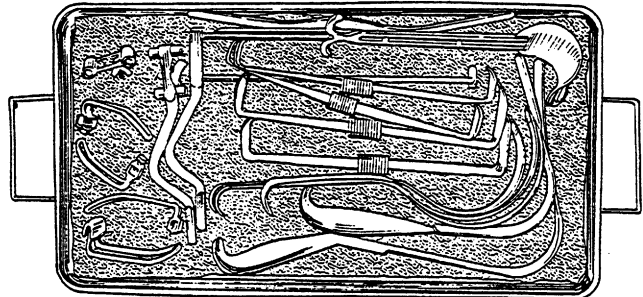

Figure 5.
- b. Avoid piling instruments one upon another. The more metal mass, the more condensation you can expect along with greater difficulty drying (Figure 5).